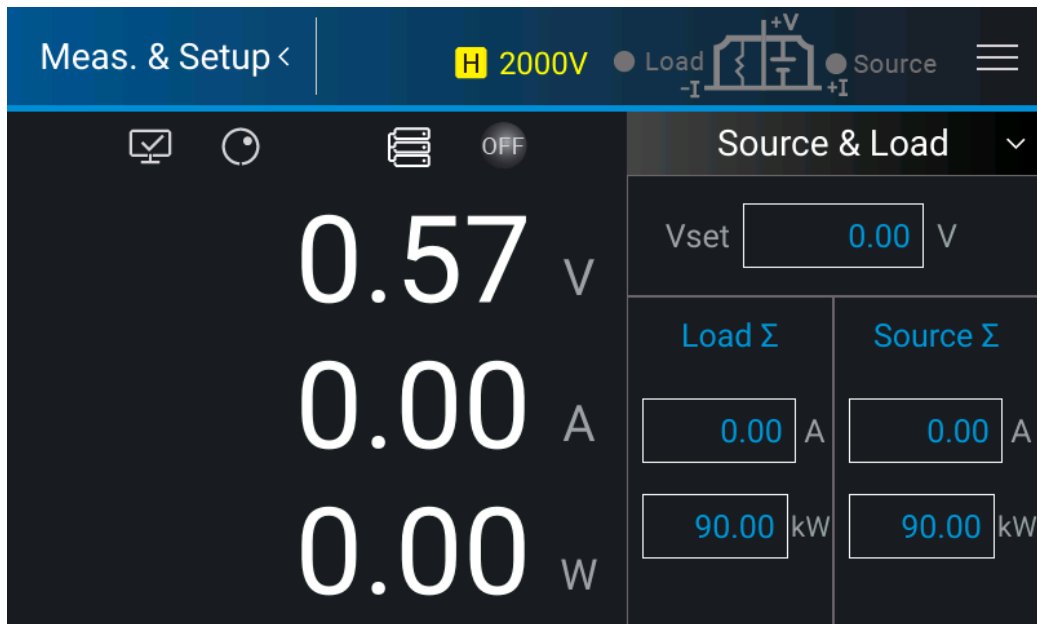
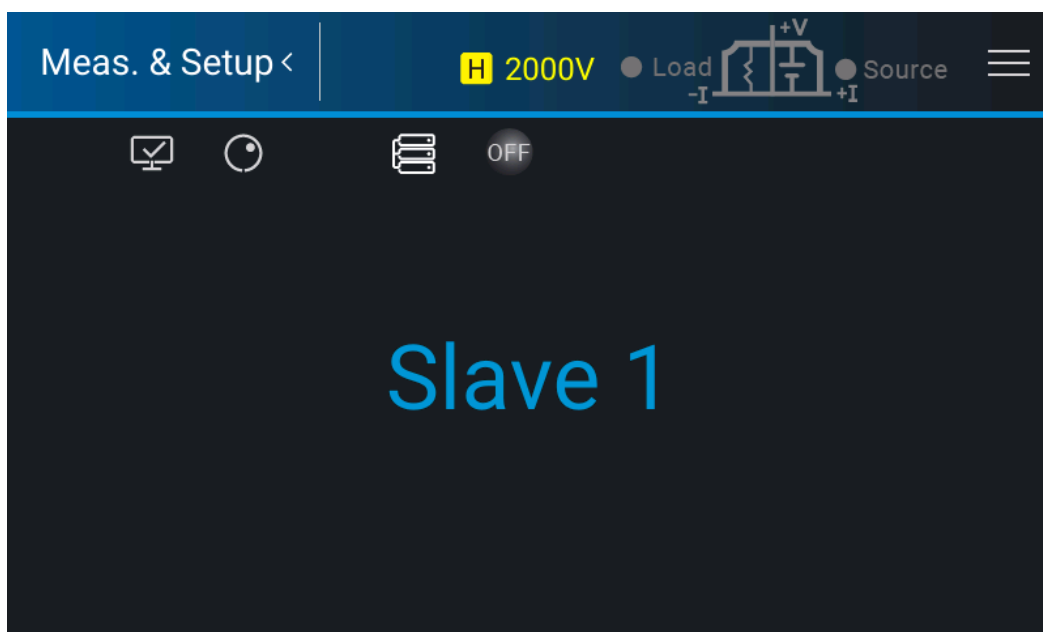

Figure 3-75
Figure 3-76
4. After the above settings are made, M/S Control should be enabled to perform parallel connection control. When the connection is successful, the Master device displays as Figure 3-75 (ex. 62450D-2000HL) while the Slave device displays as Figure 3-76 shows.